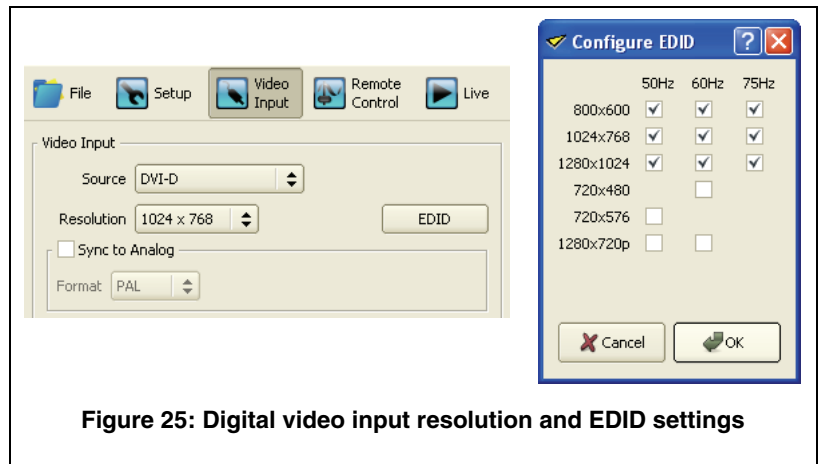

Figure 25: Digital video input resolution and EDID settings
2. See Figure 25. The **Resolution** box indicates the current video input resolution. This must match the resolution of the incoming video signal. Adjust if necessary.